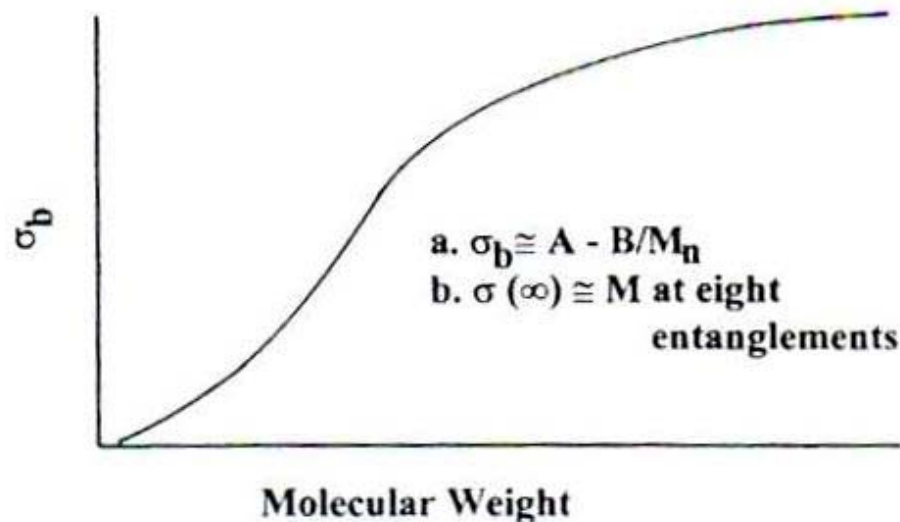

Figure 1.4
- The **tensile strength** of any material is defined as the stress at break during elongation, where stress has the units of **Pa**, dyn/cm2, or lb/in2; see Chapter 11. The effect of molecular weight on the tensile strength of polymers is illustrated in **Figure 1.4**.
A large part of the curve in **Figure 1.4** can be expressed (3,4)